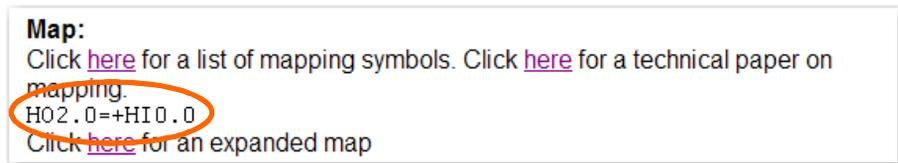

FIG. 270 MAPPING STATEMENT LISTED
- Click on the Map button. Digital Card Input 1 is now mapped to Tare. (See Fig. 270)